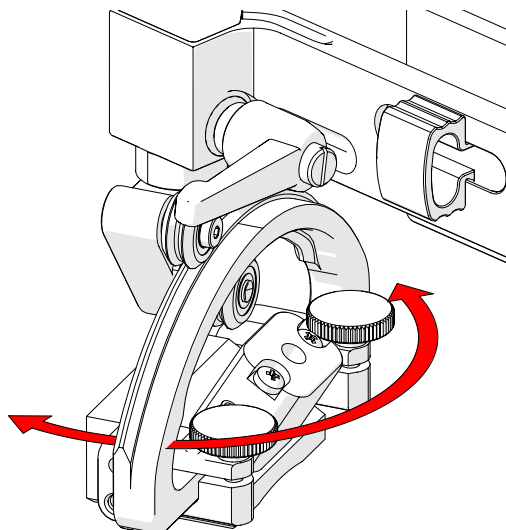

Fig. 60 - Adjust skew angle
2. Rotate the yoke (Up to 90° in either direction) to the angle required (Fig. 60).